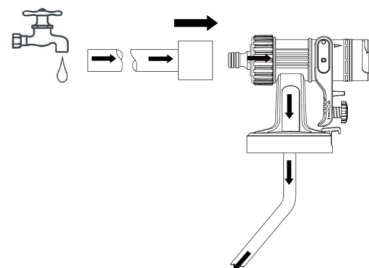

Fig. 17
4. Turn on the water source and let the water flow gently through the tool (Fig. 17).